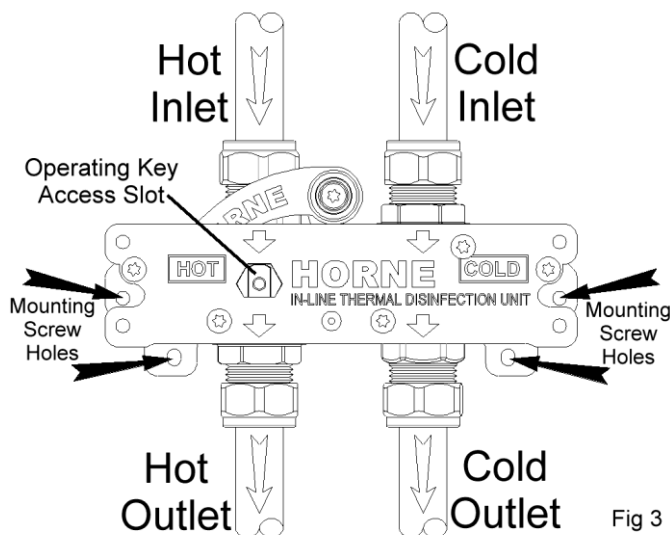

Fig 3
- Check that the ILTDU is connected exactly as shown in Fig. 3. It is essential for correct operation that the supply and outlet connection indications are observed.